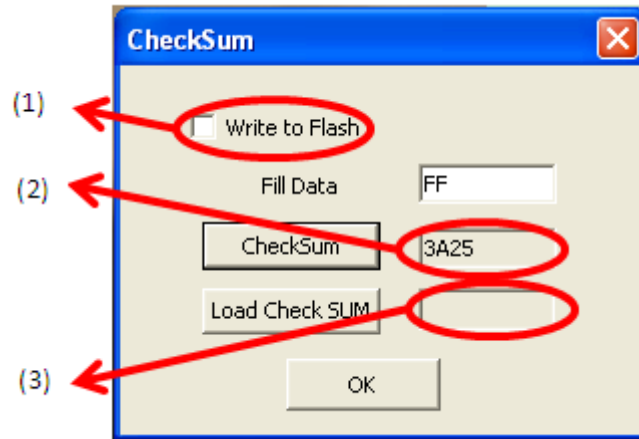
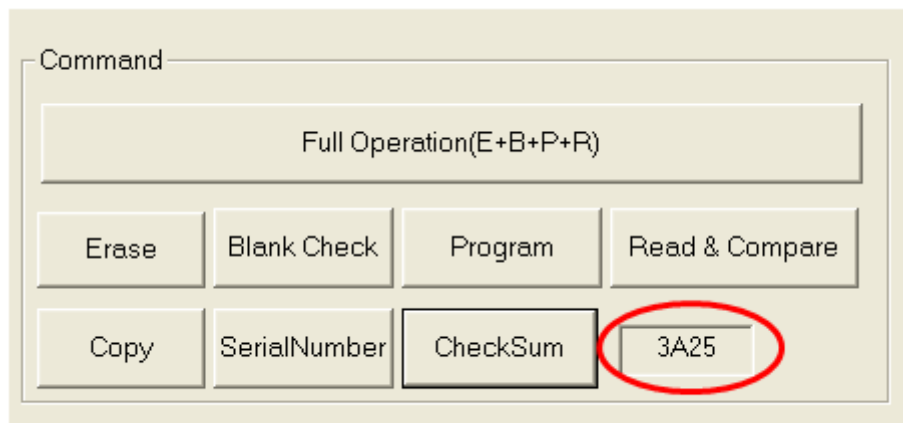

Figure 2-3 Result of Check Sum
Figure 2-4: Result Displayed in Main GUI
When a hex file is selected in **Hex File**, the default value of **Fill data** is FF. Click **Check Sum**, the result will be displayed in blank (2) as Figure 2-3. When click **OK**, the result of check sum will be displayed in main GUI, as below Figure 2-4. If need write this value to flash in 0xFFB4~0xFFB5, please enable check box (1). Click **Load Check SUM**, it will load check sum from flash and display in blank (3).